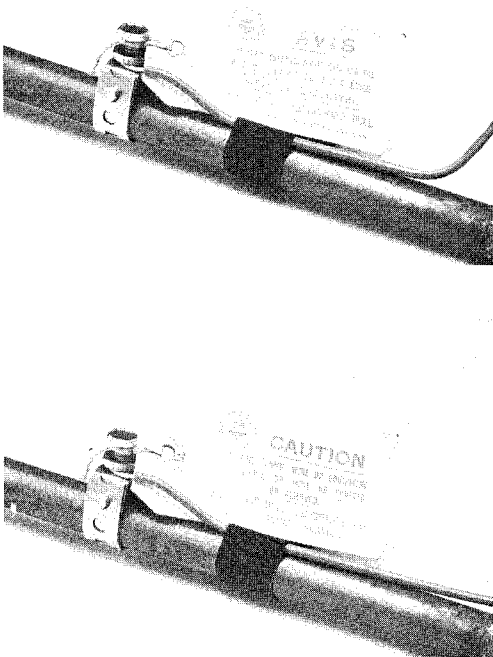

Fig. 23 — Tag 1622E and F Attached to Station Ground Clamp
5.17 Form 1622E or 1622E and F (Fig. 23) should be placed at all ground wire terminations to warn people not to disturb the clamp or wire.